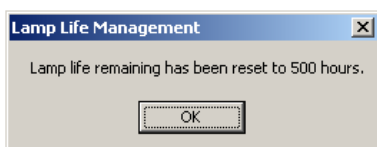

Figure 109 The counter is reset
3. Click **Yes** if you want to reset the counter. The software will display a message that confirms that the software has reset the counter (Figure 109).